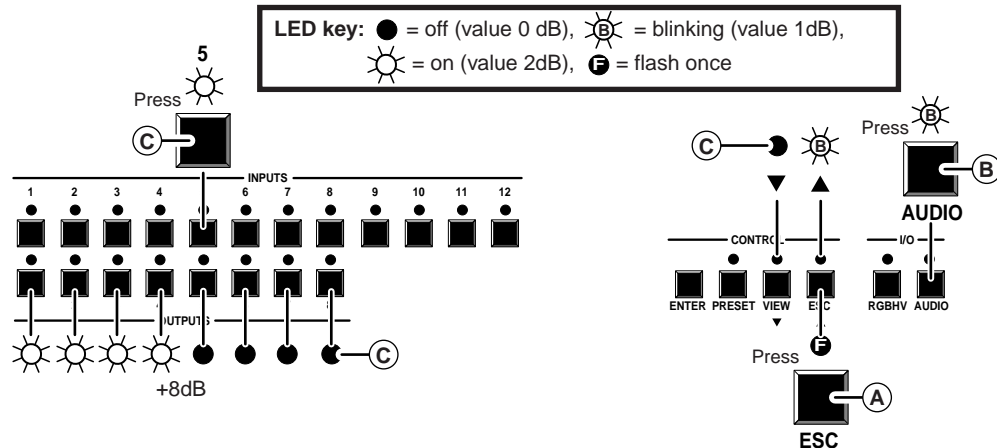
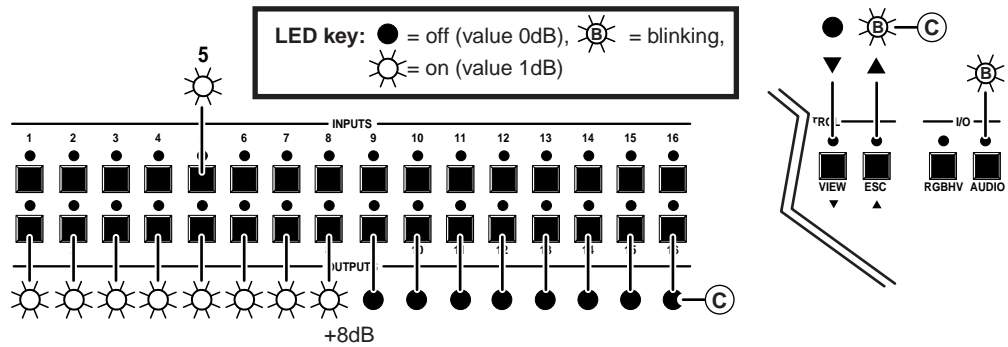
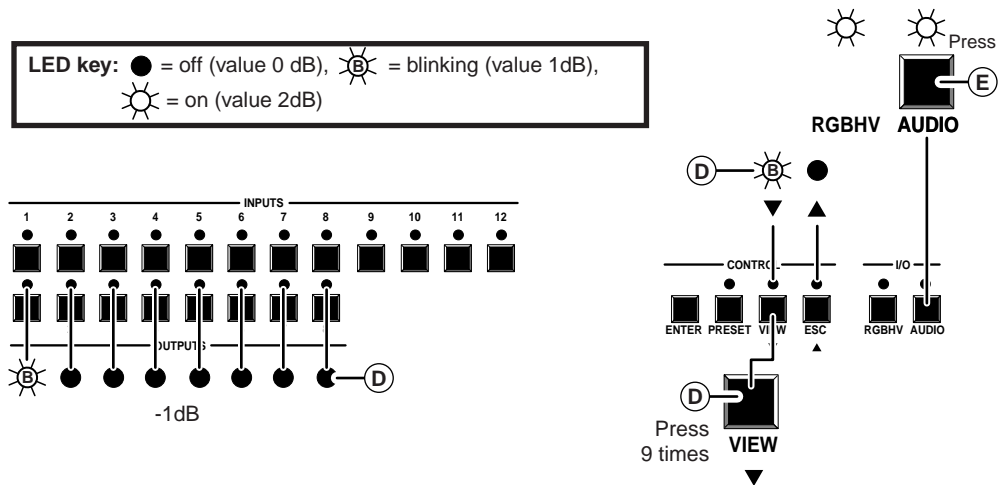
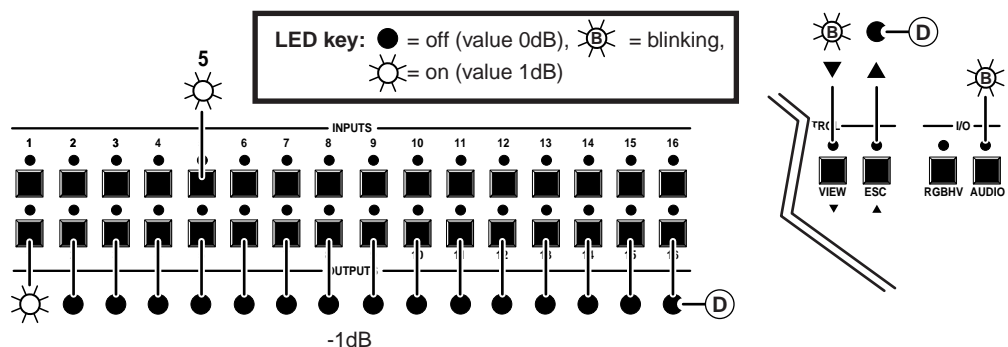

Figure 3-15 — Example 8: Viewing the audio level, CrossPoint 84, 88, 124, and 128
Figure 3-16 — +8dB displayed, CrossPoint 168 and 1616
Figure 3-17 — Example 8, step d: Adjusting the audio level, CrossPoint 84, 88, 124, and 128
Figure 3-18 — -1dB displayed, CrossPoint 168 and CrossPoint 1616
See figure 3-15, figure 3-17, and the following steps for an example of viewing and adjusting the audio level. Audio gain and attenuation is displayed differently on
the CrossPoint 168 and 1616, but the steps for displaying the value are the same. For this reason, figure 3-16 and figure 3-18 show the indications displayed on the CrossPoint 168 and 1616 without duplicating all of the actions shown in figure 3-15 and figure 3-17.
Figure 3-15 and figure 3-16 show an audio level of +8dB displayed in the output LEDs on the two different CrossPoint front panels.
- (D) Press and release the View (▼) button once to decrease the audio level displayed in the output LEDs by 1dB. Press and release the View (▼) button several more times to decrease the audio level displayed in the output LEDs by an additional 1dB per button push. Note the output LED, View LED, and Esc LED changes that occur each time the View (▼) button is pressed and released. Figure 3-17 and figure 3-18 show the result of pressing the View (▼) button a total of 9 times. Both figures show an audio level of -1dB. Note that the Esc (▲) LED has turned off and that the View (▼) LED is blinking to indicate a negative level.